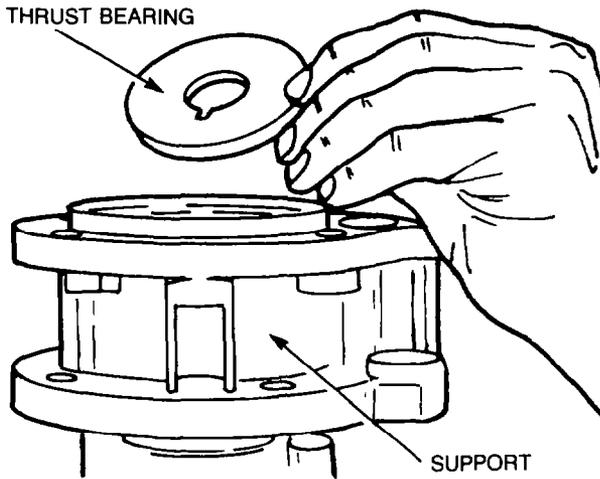

Figure 252 — Thrust Bearing — Installation
- g. Lubricate the thrust bearing with clean engine oil, then install the bearing over the end of the crankshaft and into the support with the slotted side toward the crankshaft (see Fig. 252).